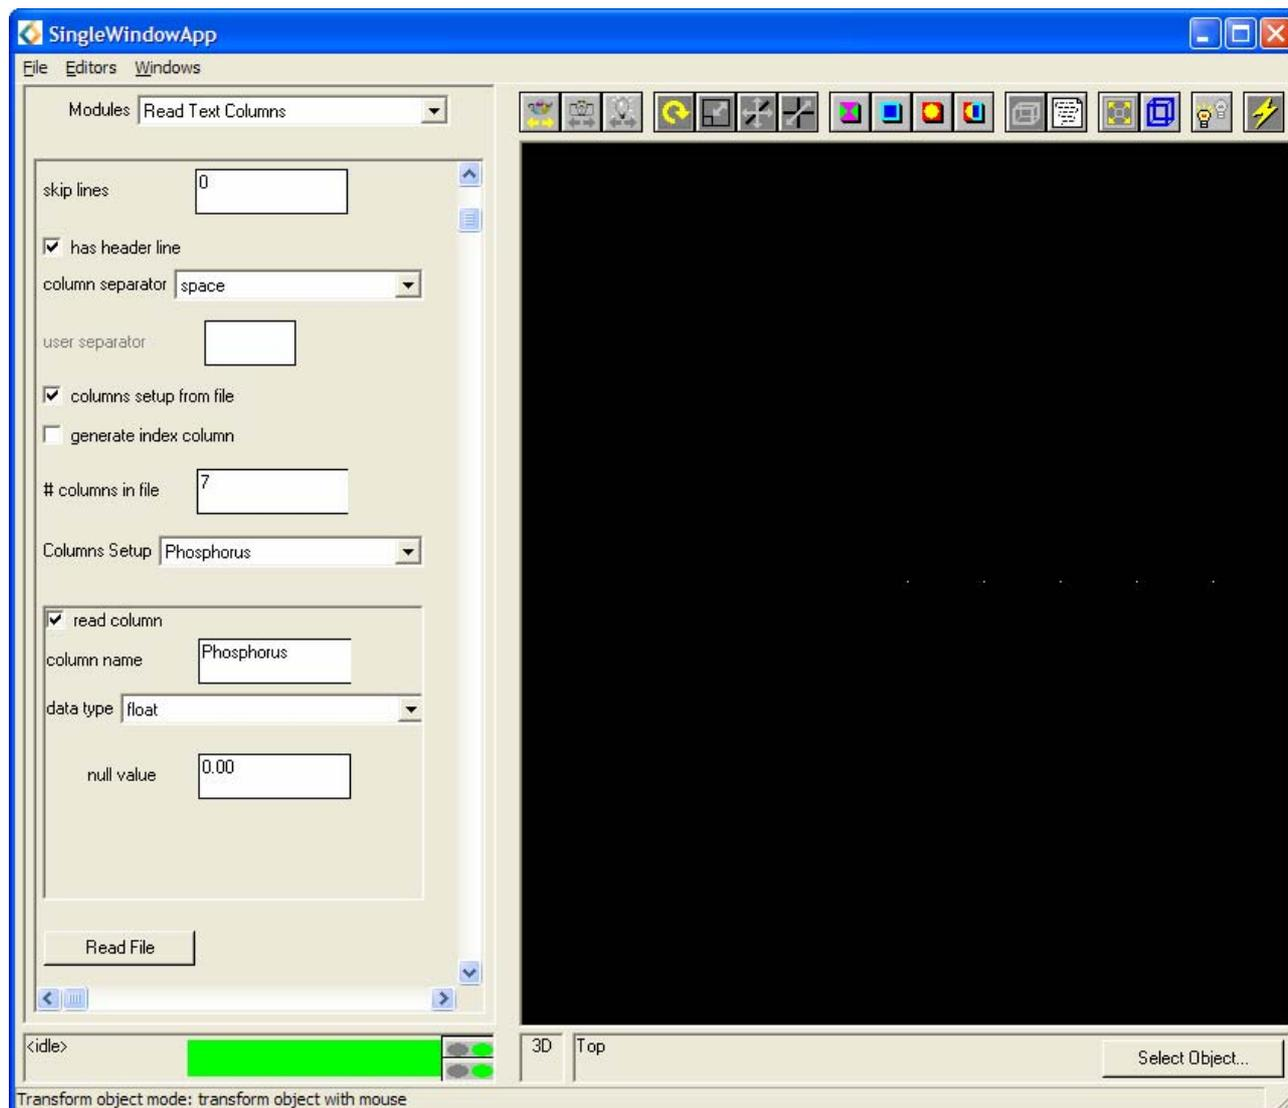

Figure C.27: Read Text Columns Editor Panel for **Phosphorus** Component
- The **data type** of the 5 soil property components is **float**. Using the **Columns Setup** dropdown list select the required component and set its properties using the widgets in the indented panel above the **Read File** button (Figure C.27). It is important to set each component to **float**. This is tedious but necessary.